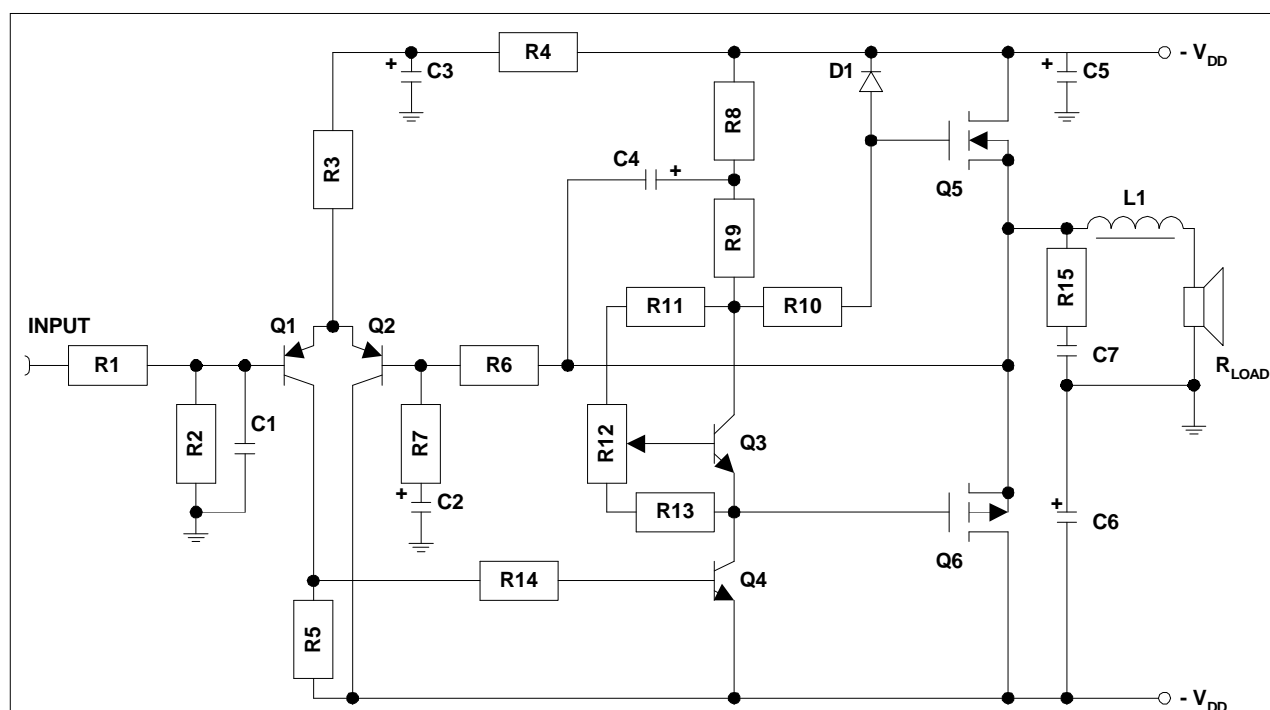
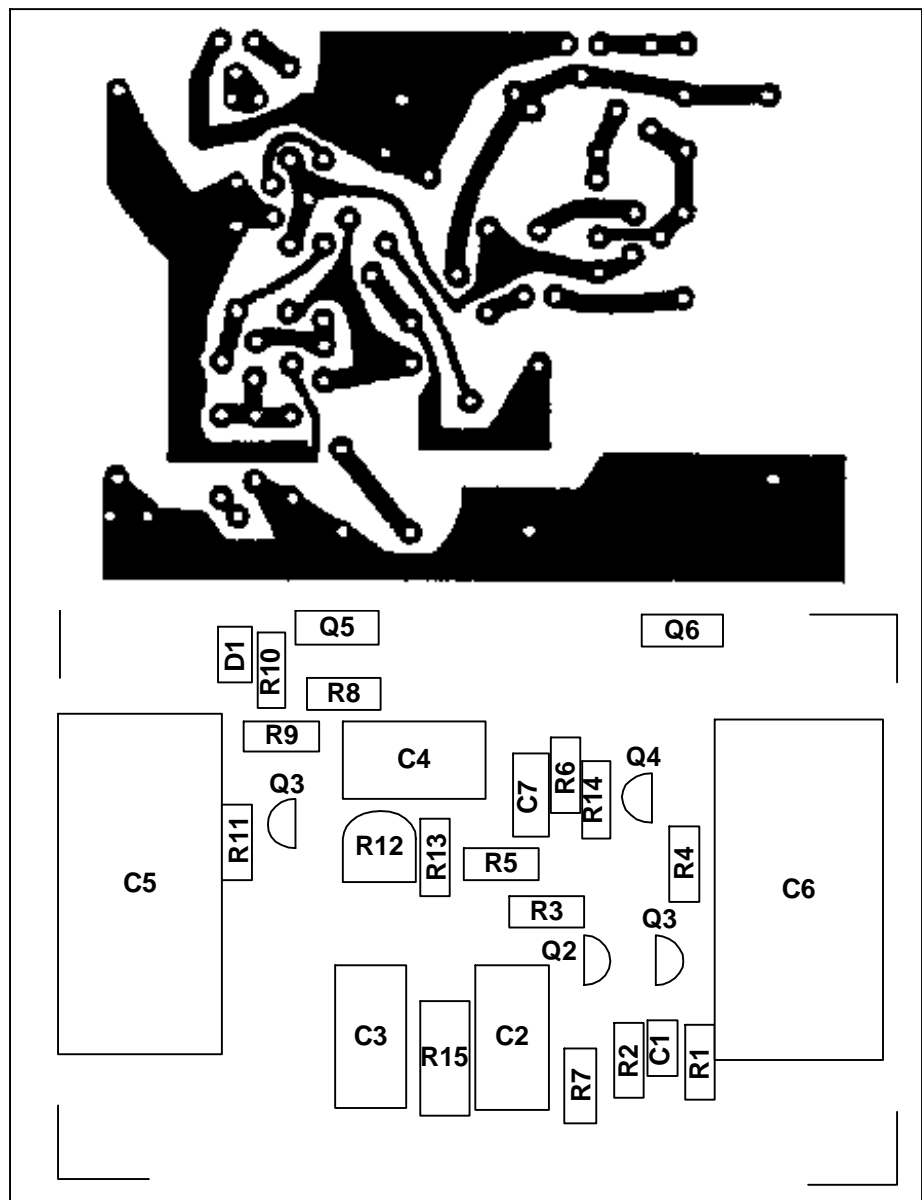
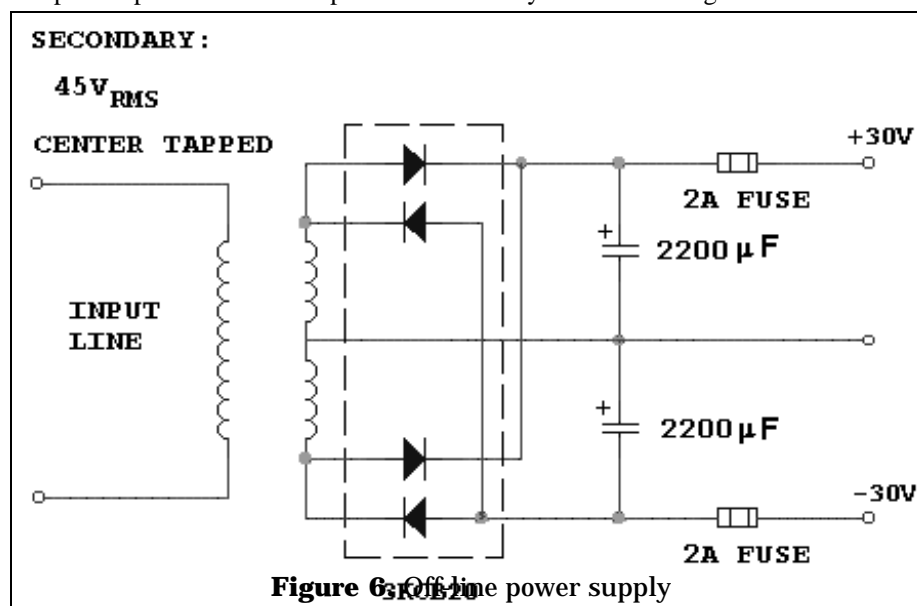

Figure 1. Class AB Amplifier Circuit Diagram
Figure 2. Amplifier Printed Circuit Board Layout
Figure 6. Off-line power supply
The amplifier circuit diagram is shown in Figure 1, and the components listing in Table 1. Split power supply rails ($\pm V_{DD}$) are used, giving improved rejection of power supply ripple and allowing the load, R_{load} , to be direct coupled. The output devices Q_5 , Q_6 , operate in source follower configuration. This offers a twofold advantage; a) the possibility of oscillation in the power output stage is reduced as the voltage gain is less than unity and b) signal feedback through the heatsink on which the devices are assembled is eliminated as the drain terminal, which is electrically connected to the tab on the TO220 package, is at dc voltage.
Figure 2 shows a printed circuit layout which can be used for the circuit shown in Figure 1. The preceding design rules have been followed.
(d) *Quiescent Operating:* The dependence of the quiescent current in the output stage and of the offset voltage on power supply voltage are illustrated in Table 2. The quiescent current is set by first adjusting the potentiometer, R_{12} , for minimum offset voltage-turned fully anticlockwise if the pcb layout in Figure 2 is used - and applying the power supply voltage, the positive
A simple line derived power suitable for the class AB amplifier is illustrated in Figure 6. The $\pm 30V$ supplies are taken from the centertapped secondary of the line transformer. The 2200 μF decoupling capacitors, (Figure 1) which should be mounted as close as possible to the amplifier output stage, reduce the supply frequency ripple to 5.5V pk-pk at full load.
It is unlikely that any experienced experimenter will have difficulty in achieving satisfactory results when building an amplifier to this design. The printed circuit board shown in Figure 2 is intended to assist in this respect. The major problems anticipated are those associated with the faulty assembly of components and damage to the HEXFET Power MOSFETs through handling or circuit oscillation.
1. When assembling the printed circuit board, mount the passive components first, ensuring the correct polarity of electrolytic capacitors. Then solder in the transistors $Q_1 - Q_4$ checking for correct pin identification. Finally, mount the HEXFET Power MOSFETs, avoiding static discharge by shorting the pins together to ground and using a grounded soldering iron. Check the assembled board for correct component placement. A component side overlay as shown in Figure 2 is useful for this purpose. Check the copper side of the board for solder bridges between tracks, and remove them. Check for dry solder joints visually and electrically using a resistance meter and rework, if necessary.
2. Power can now be applied to the amplifier and the output stage quiescent current set to between 50 and 100mA. The potentiometer, R_{12} is first adjusted for minimum offset (fully anticlockwise on the pcb layout in Figure 2). An ammeter is connected in series with the positive supply and selected to read 1A f.s.d. R_{12} is adjusted until the ammeter reads between 50mA and 100mA.